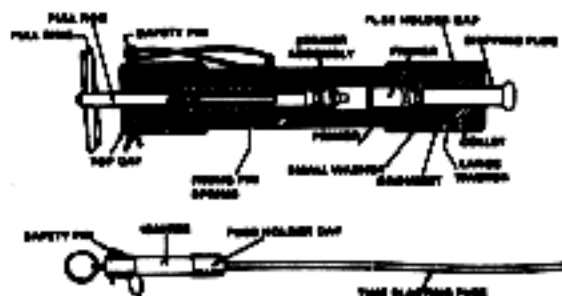

Figure 15-5. M60 fuse igniter
(9) Pass the end of the time fuse without the blasting cap through the priming adapter. If priming adapter is not available, insert cap into well and secure with string or tape.
(10) Attach M60 fuse igniter (figure 15-5).